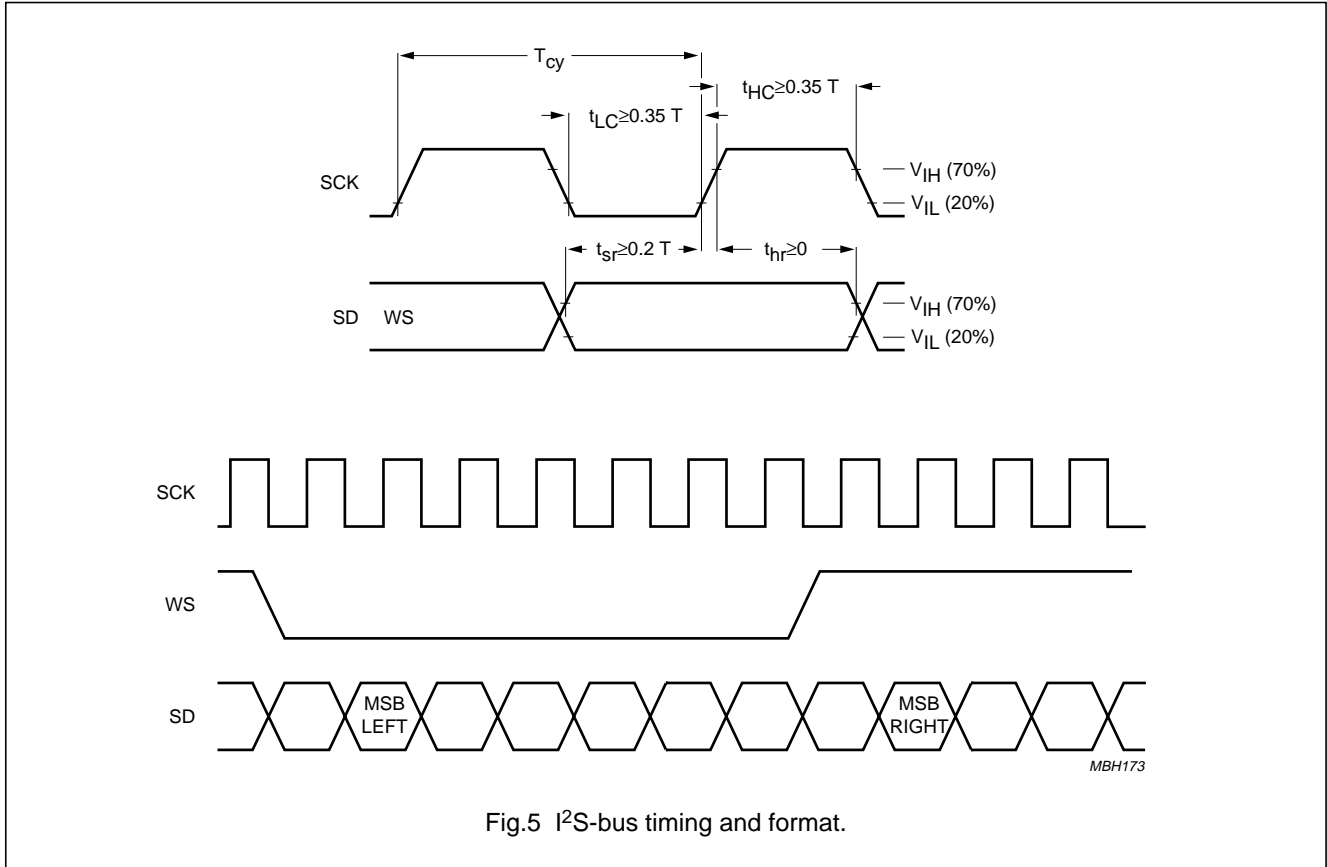

Fig.5 I²S-bus timing and format.
Figure 5 shows an excerpt of the Philips I²S-bus specification interface report regarding the general timing and format of I²S-bus. Word Select (WS) logic 0 means left channel word, logic 1 means right channel word.